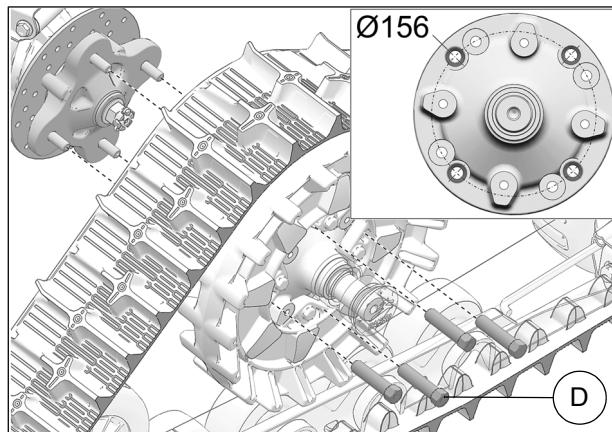

Fig. 17
8. Secure undercarriage to rear hub using the provided M12 lug nuts (**D**). Use bolt circle $\varnothing 156$ mm. See Fig. 17